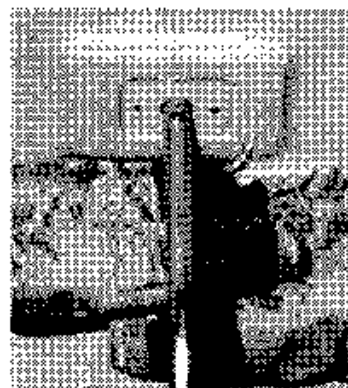

Fig. 5
9. Enter unit and insert bed bow support pole at bow peg. Push bow outward and upward while pressing on button farthest from the end and slip into bracket mounted on roof. Release button. Fig. 5
5. Remove bow braces from bracket on the roof and pull brace to center of coach. Remove from peg on bed bow. Place bows under bed mattress. Fig. 5